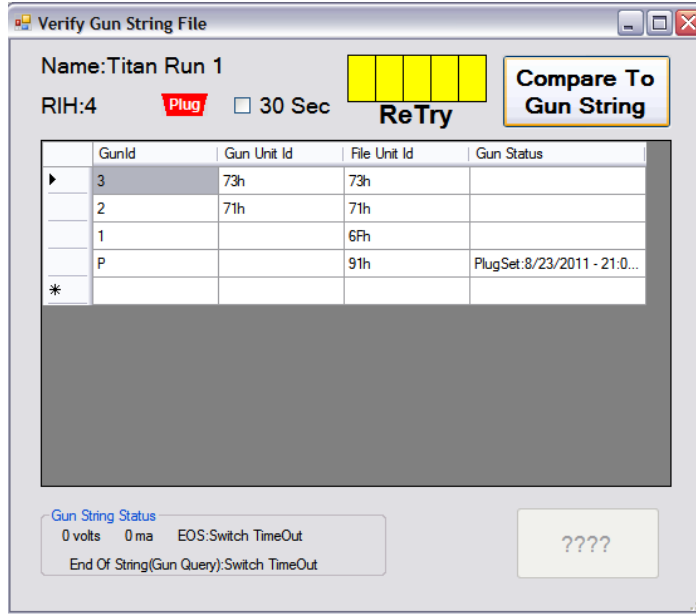

Figure 32
3. Before skipping guns, a Compare to Gun String should be done to validate the failure. Select the **Compare to Gun String** button and the results are shown Figure 32. This operation confirms the same condition as found on the Gun Control Screen.